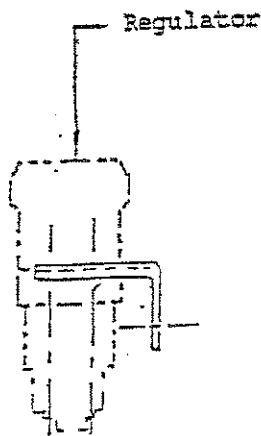

Fig. 1
6. Install the mounting bracket to the air regulator as shown in Fig. 1. If you are using your FRL with a Rhino carrier, refer to Fig. 2. (The carrier is optional and not part of the FRL.)